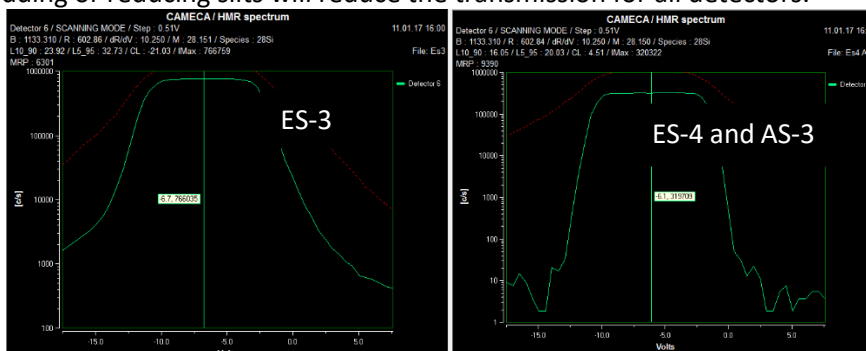

Figure 340: comparison of MRP with different ES-AS combinations
- If a higher MRP is needed, put a smaller entrance slit (ES) (which implies a re-adjustment of Cy, P2/P3 and EOS) or add an aperture slit (AS): in the same conditions of analysis, the two of Figure 340 show two HMR peaks, one with ES-3 (MRP=6301) and the other with ES-4 and AS-3 (MRP=9390).